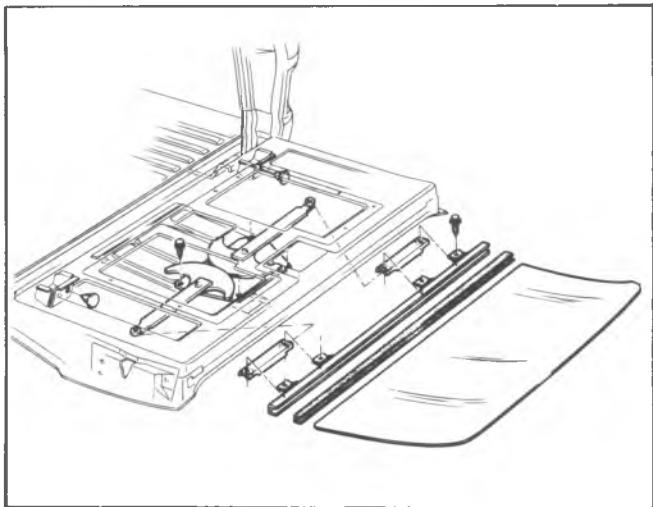

Fig. 53—Window Glass and Regulator—(06 Only)
6. Remove screws connecting cam assemblies to sash assembly, figure 53, then remove cam assemblies.
9. Remove screws connecting window regulator assembly to endgate, figure 53, and remove regulator.